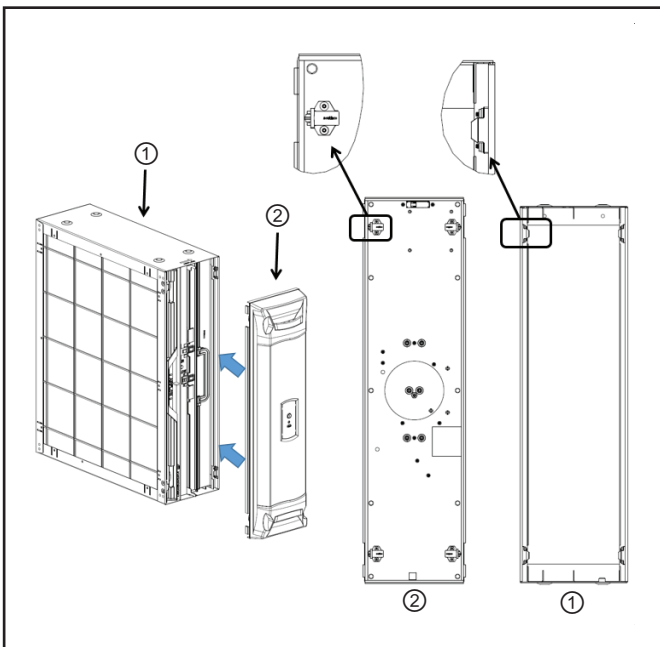

Figure 13 Reinstalling Power Door
Step 2: Replace the power door onto the air Cleaner. See Figure 13.